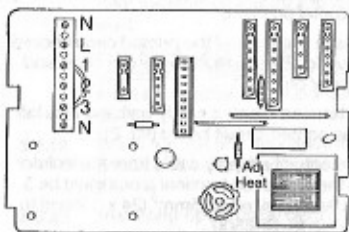

Fig. 21
- The terminal block is easily visible on the left of the printed circuit board (fig. 21)
5.7.4 Pass the cable through the cord anchorage and connect it so that should the cable slip the anchorage the current carrying conductors become taut before the earthing conductor. (fig. 21)
Refer to fig. 24 to determine pressure for the heating output you need. Use a screwdriver to adjust the potentiometer (fig. 21) until the required pressure is indicated on the gauge. Once this pressure has been fixed it should be indelibly recorded on the label provided and affixed next to the data badge. This is to ensure that the burner can be reset when any service operation involves alteration of burner settings.